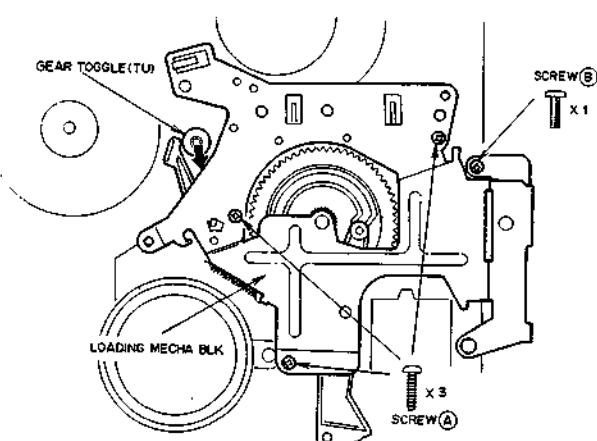

Fig. 4-13
- 9) Attach the LOADING MECHA. BLK with holding the GEAR TOGGLE (TU) in the direction of the arrow as shown in Fig. 4-13. Tighten the LOADING MECHA BLK with four screws Ⓐ and Ⓑ.